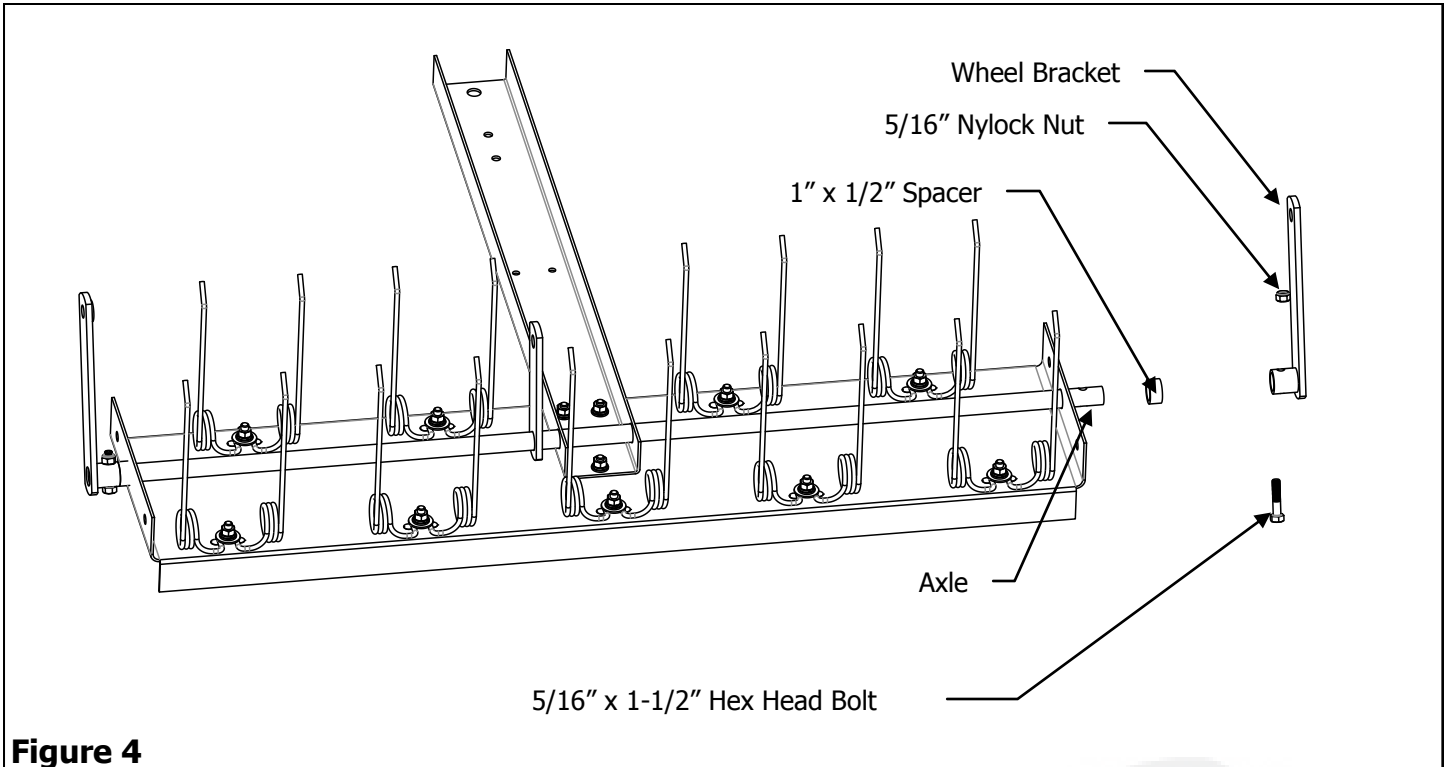

Figure 4
4. Place a 1" x 1/2" Spacer onto the Axle, followed by a Wheel Bracket. Align the hole of the Wheel Bracket with the hole in the Axle. Insert a 5/16" x 1-1/2" Hex Head Bolt into the hole in the Wheel Bracket and Axle. Secure with a 5/16" Nylock Nut. Repeat process on the other side. See Figure 4.